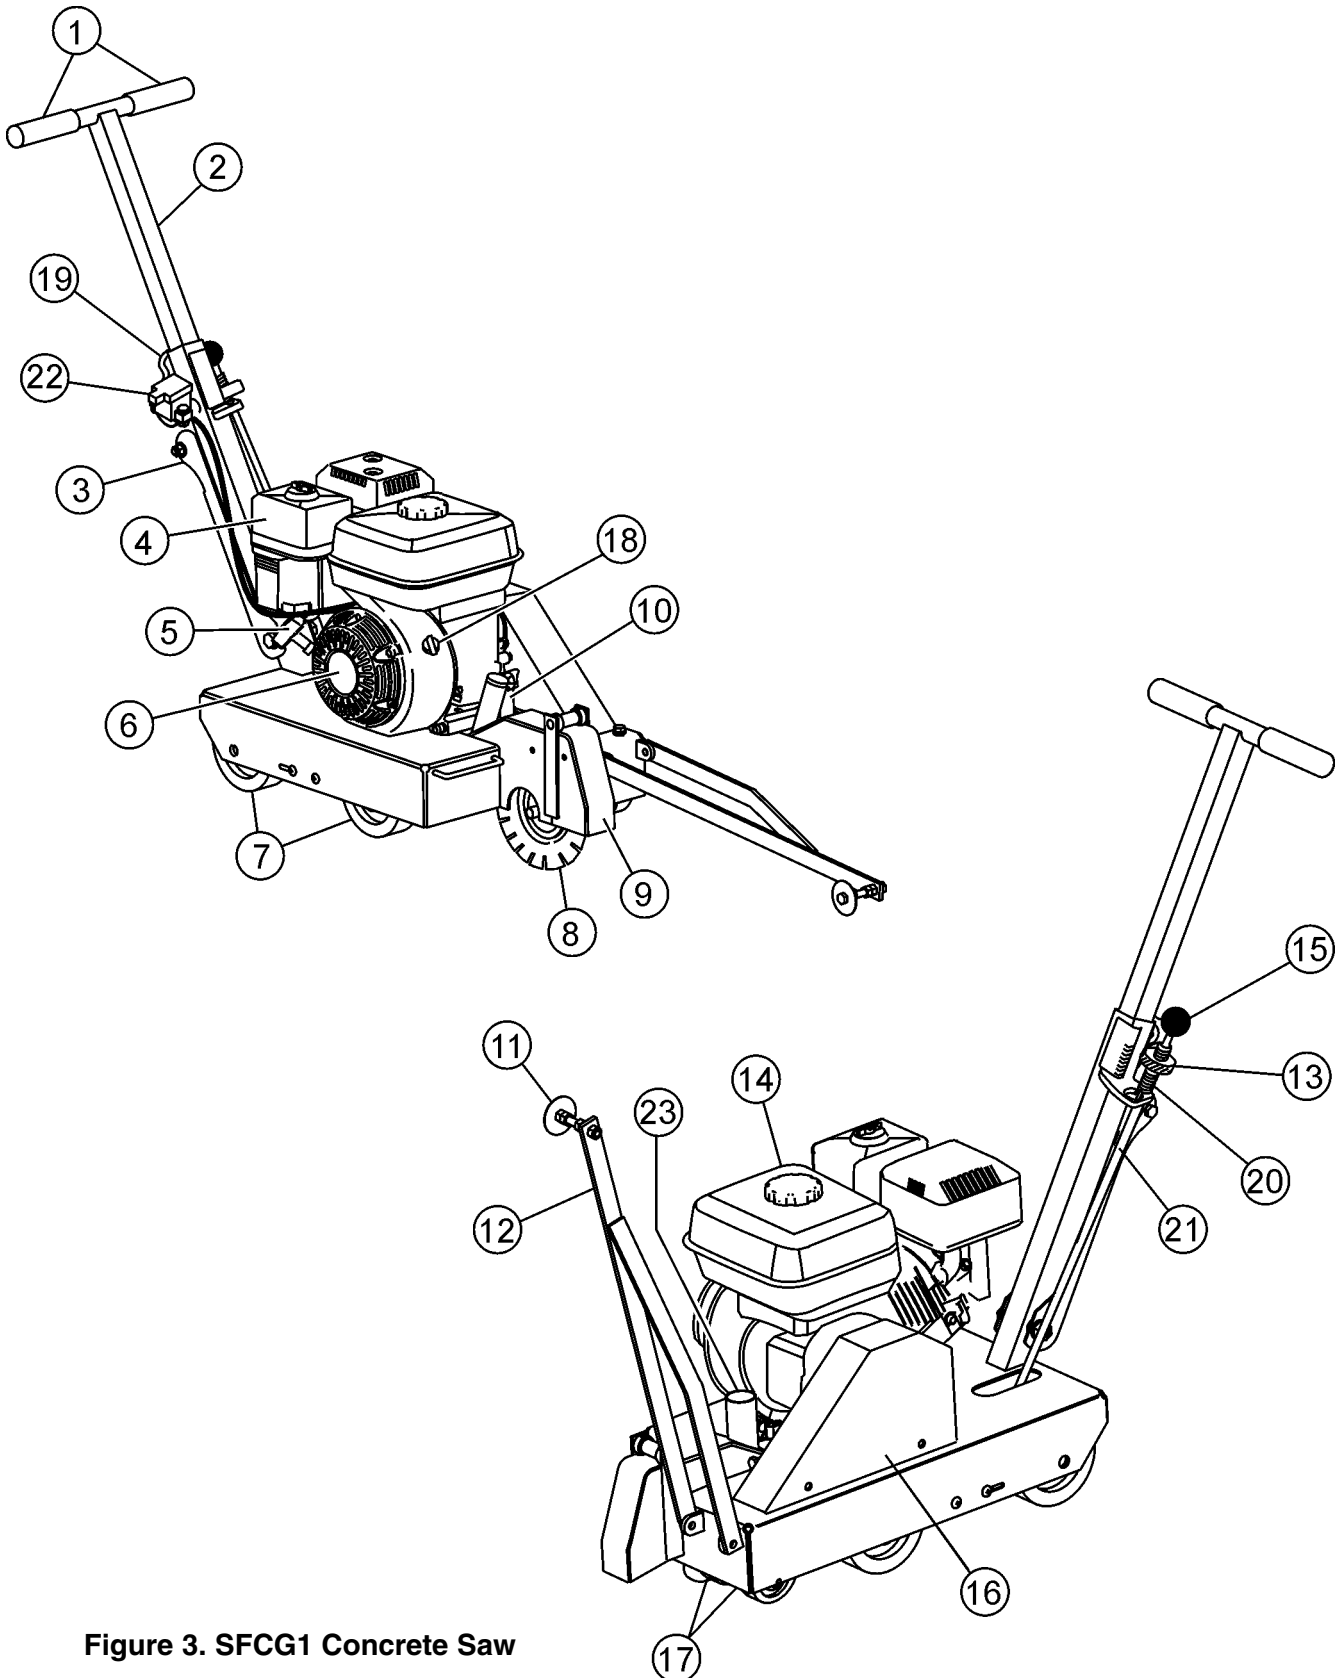

Figure 3. SFCG1 Concrete Saw
- Ensure that the blade is mounted for proper operating direction. (See Figure 3, page 14)
Operator control of the saws is safely accomplished with adjustable handle bars, and a conveniently oriented raise/lower lever and depth adjustment wheel. An engine-off switch (Item 22 Fig. 3) located next to the handle lock allows the operator to safely turn the engine off from the operator's position and away from moving parts.
Figure 3 shows the location of the basic controls or components, for the SFCG1 Concrete Saw. Listed below is a brief explanation of each control or component